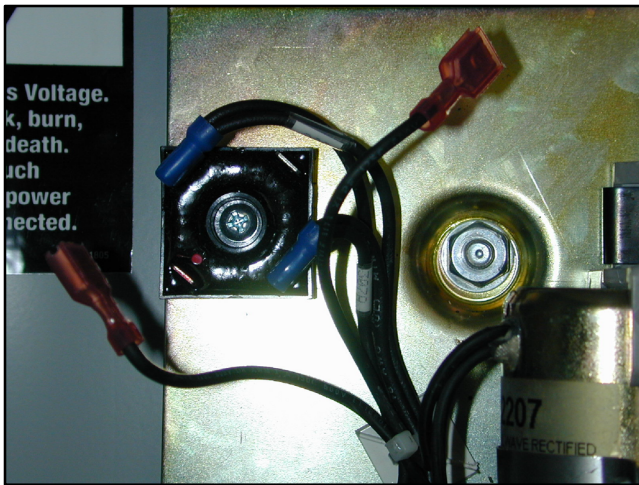

Figure 7-14 Rectifier Connections (DC solenoid leads shown disconnected)
5. Remove DC fast-on connections from the rectifier terminals. See Figure 7-14.